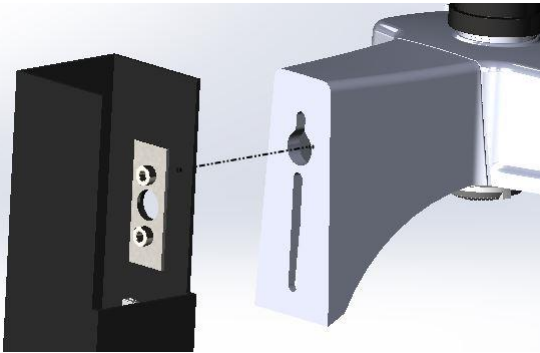
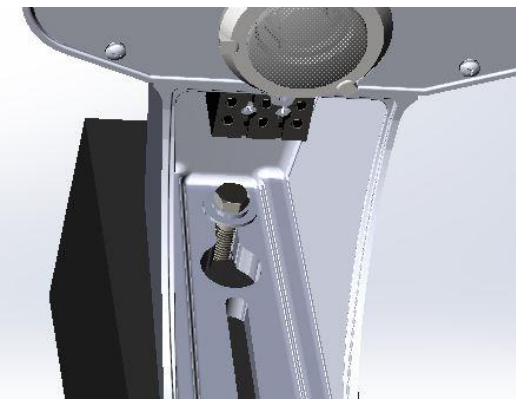

Fig. 4
Fig. 5
- Mount the luminaire by aligning the arm mount casting (keyhole) and the hex head bolt (Fig.4), then carefully lower the luminaire to hang with 3/8-16 hex head bolt. (Fig. 5).